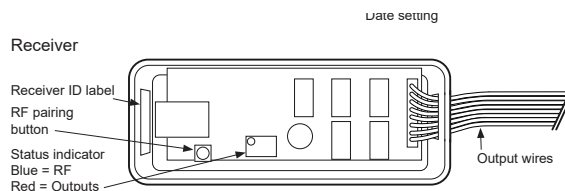

Figure 514( Thermostat Receiver)
1. At the Receiver, use a small flat head screw driver to open the grey front cover. Hold down the RF Pairing button for 5 seconds until the Blue RF indicator LED starts to flash. (Figure 514)